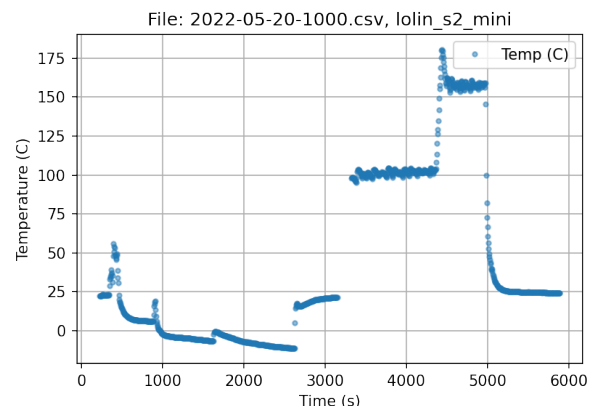

Figure 13: The temperature versus time of the experiment.
Figure 13 shows the temperature versus time as I cooled and heated the sample and thermocouple.
- a) *Figure 13* shows how to wire the DAC to ground with a lower resistance, like $100\ \Omega$, then use an op amp to provide a low impedance voltage source. I love the MCP6022 op amp. It works on 3.3 V supply, has rail to rail input and output, comes in plastic DIP that plugs into breadboards, and has a gain-bandwidth of 10 MHz. It is a good practice to wire a $1\ \mu\text{F}$ capacitor from 3.3 V to GND at the op amp.